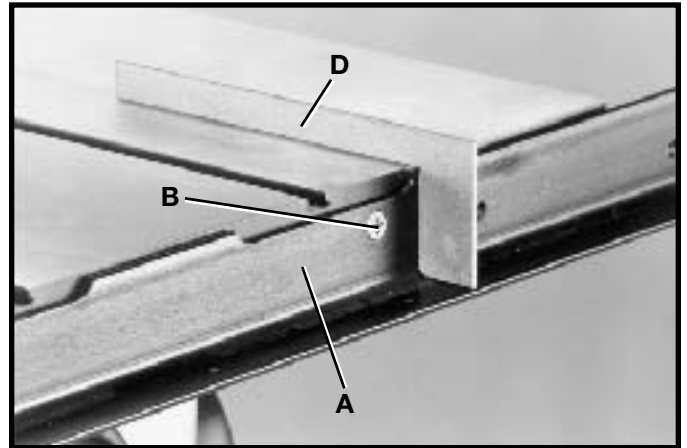

Fig. 12
2. Using the template (D) Figures 12 and 13, check and adjust front rail at both ends of the saw table as shown, to make sure rail (A) is level with table surface and tighten rail mounting hardware (B). **IMPORTANT: Template (D) must be on the saw table when checking, not on extension wing.**